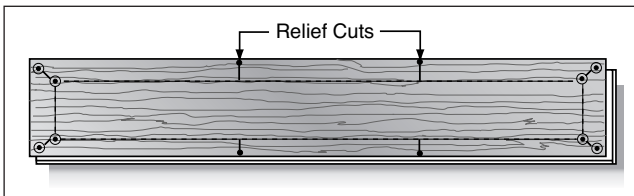

Fig. 44
2. Mark damaged board 1-1/2" (3.81 cm) from ends and sides. Drill 3/16" (4.76 mm) holes in corners and at relief cuts (Fig. 44).